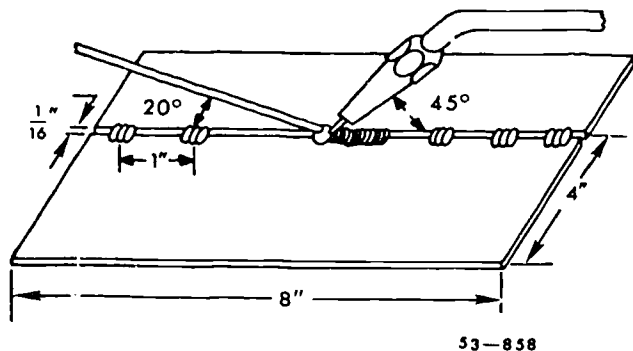

Figure 2-30. Welding butt joints.
**Setup and tack welding.** The proper spacing, size, and penetration of the tack welds help maintain the alignment of the joint and reduce the possibility of excessive warping. The spacing between the edges of the sheet should equal the metal thickness after tacking. Because of the high coefficient of expansion, make tack welds that completely penetrate the base metal and that are spaced approximately 1 inch apart along the entire joint. Figure 2-30 shows the proper setup for welding a rigid butt joint on stainless steel. Note the degree and dimension indications.